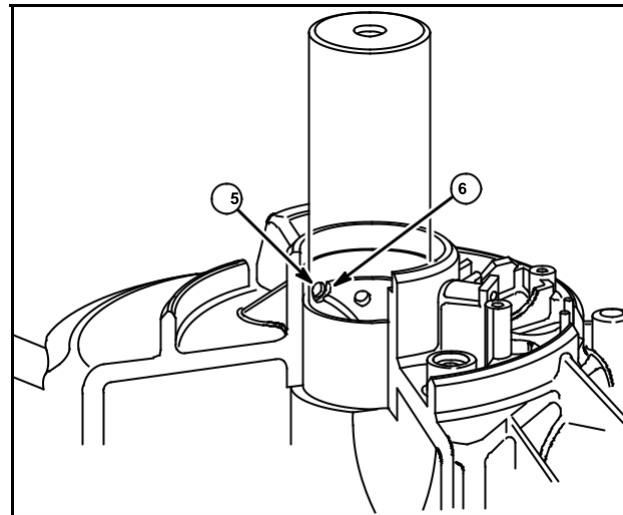

Fig. 11
On Model Series 171700, 191700, 193700, 195700, 196700 magneto bushing notch (6) should be in line with oil hole (5). Oil hole should be open after installation, Fig. 11.